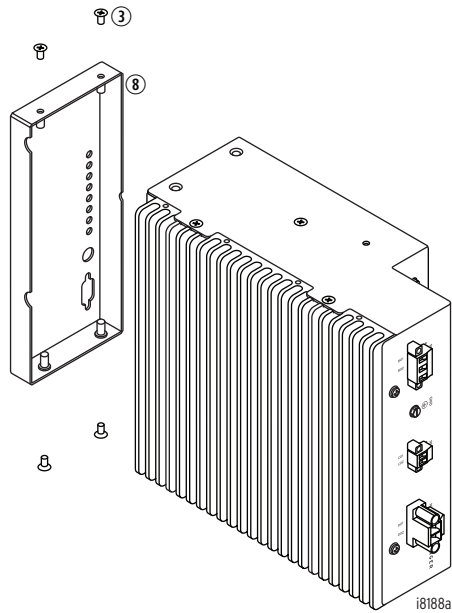

Figure 5 Removing/Installing the Front Panel
- Step 4. Use four (4) #8-32 flathead screws ③ to install the front panel ⑧ (see *Figure 5*). Torque screws to a minimum of 1.2 Nm (11 in-lb) and a maximum of 1.4 Nm (12 in-lb).